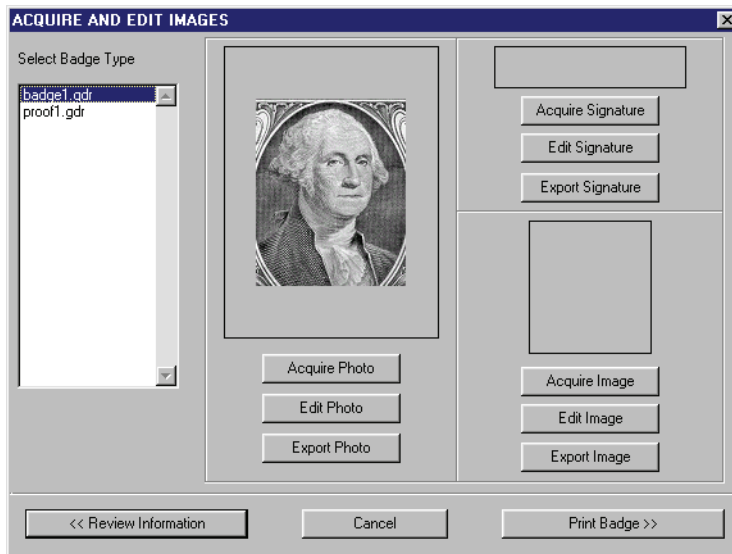

Figure 9-24 Acquire and Edit Images Window with User Photo
8. If you are satisfied with your adjustments, click on the  button. The Acquire and Edit Images window appears with the user photo displayed (see Figure 9-24).
13. By default, the exported user photo file is saved in the same folder with the original user photo. If the photo file should be saved in a different folder, click the  at the right side of the “Save in” field. Navigate through the folders in the host computer’s hard disk drive until you locate the desired folder. Click on the  button. The user photo file is exported and the Acquire and Edit Images window reappears (see Figure 9-24 on page 22 of this section).